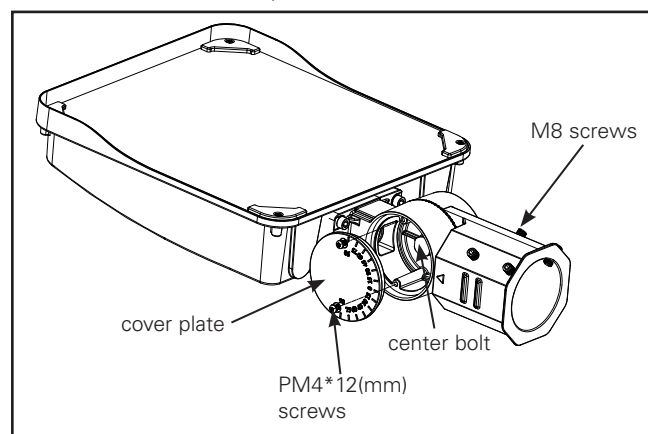

Figure 3
3. Loosen and remove the cover plate screws and carefully set aside the cover plate and screws (figure 3).